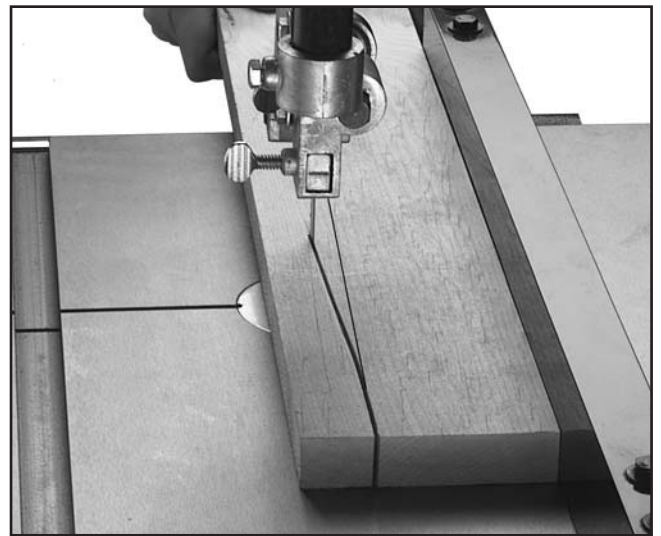

Figure 17. Typical example of blade leading away from line of cut.
Sometimes the bandsaw blade will not cut straight even when the fence and blade are parallel (**see Figure 17**). This condition is called "lead." Lead occurs (1) if the blade tension is incorrect, (2) if the teeth are dull on one side, or (3) if the teeth are set heavier on one side of the blade than the other.